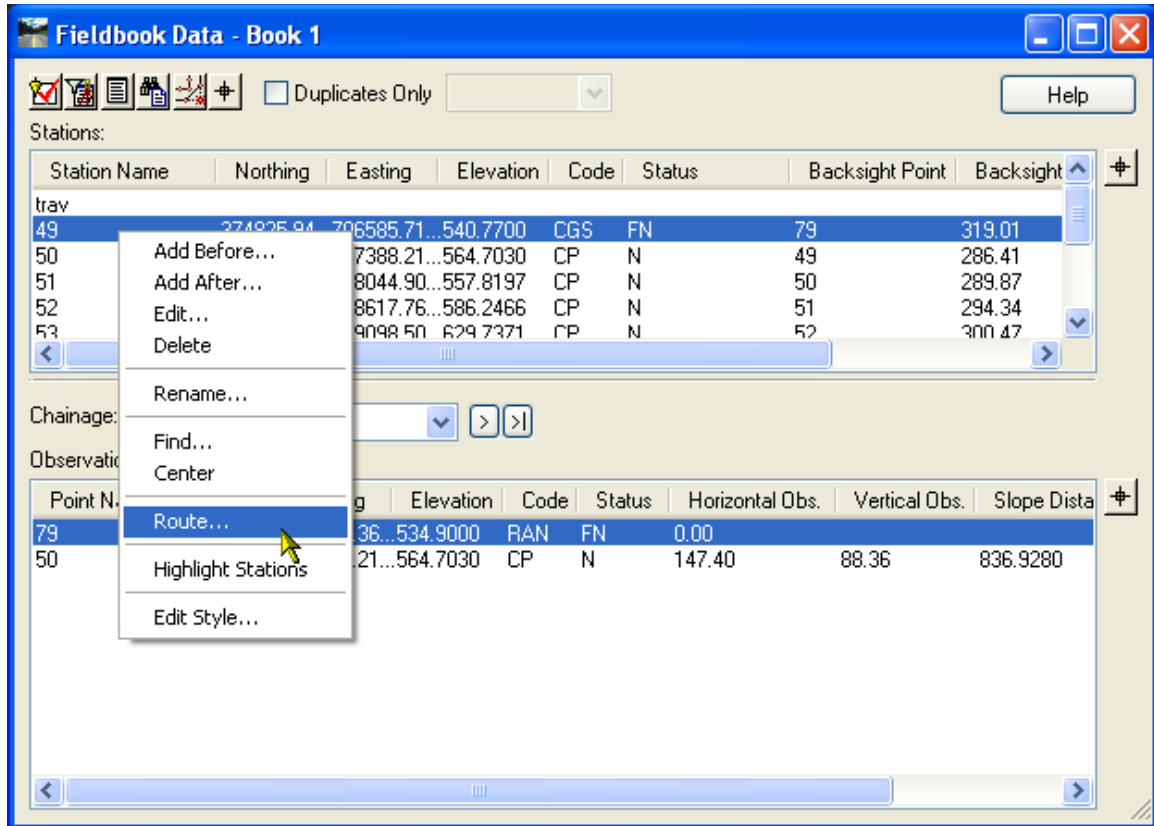

Figure 2-6 InRoads Fieldbook Dialog Box
- B. In the Stations portion of the Fieldbook Data dialog box (Figure 2-6) right click on the first station 49. A menu will appear then slide down and select **Route....**